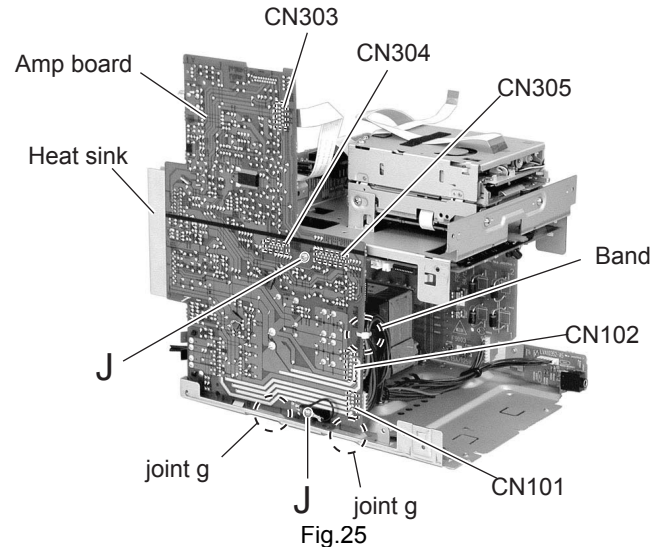

Fig.25
2.1.10 Removing the amp board and heat sink (See Fig.25 and 26.)